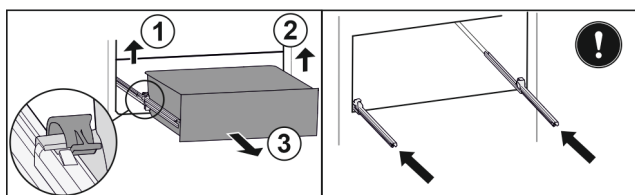

Fig. 37*
- ▶ Lift the left clamp and simultaneously pull the drawer on the left forwards Fig. 37 (1).*
- ▶ Lift the right clamp and simultaneously pull the drawer on the right forwards Fig. 37 (2).*
- ▶ Take out the drawer to the front Fig. 37 (3).*